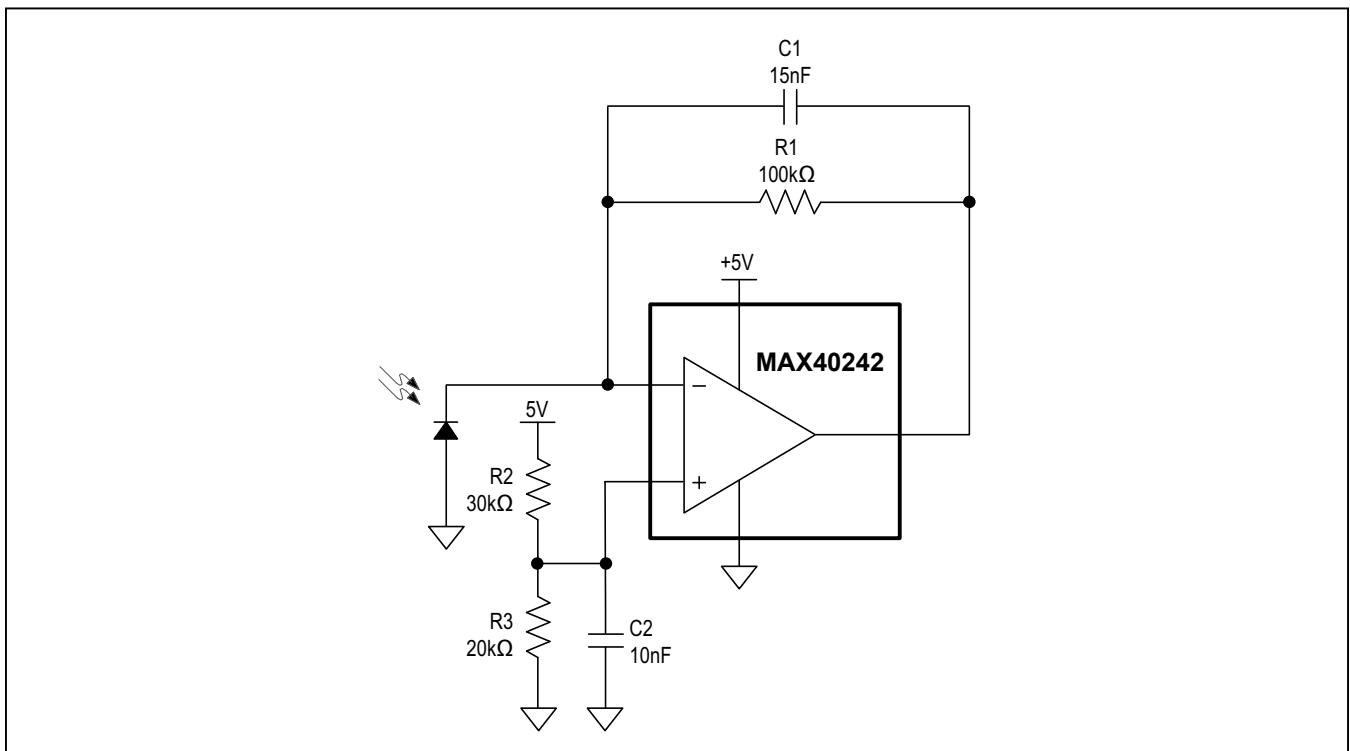

Figure 1. High-Impedance Source/Sensor Preamp Application
The device interfaces to both current-output sensors (photodiodes) (Figure 1), and high-impedance voltage sources (piezoelectric sensors). For current output sensors, a transimpedance amplifier is the most noise-efficient method for converting the input signal to a voltage. High-value feedback resistors are commonly chosen to create large gains, while feedback capacitors help stabilize the amplifier by cancelling any poles introduced in the feedback loop by the highly capacitive sensor or cabling. A combination of low-current noise and low-voltage noise is important for these applications. Take care to calibrate out photodiode dark current if DC accuracy is important. The high bandwidth and slew rate also allow AC signal processing in certain medical photodiode sensor applications such as pulse-oximetry. For voltage-output sensors, a noninverting amplifier is typically used to buffer and/or apply a small gain to the
As shown in Figure 1, the noninverting pin is biased at 2V with C2 added to bypass high-frequency noise. This bias voltage to reverse biases the photodiode D1 at 2V which is often enough to minimize the capacitance across the junction. Hence, the reverse current (IR) produced by the photodiode as light photons are incident on it, a proportional voltage is produced at the output of the amplifier by the given relation: